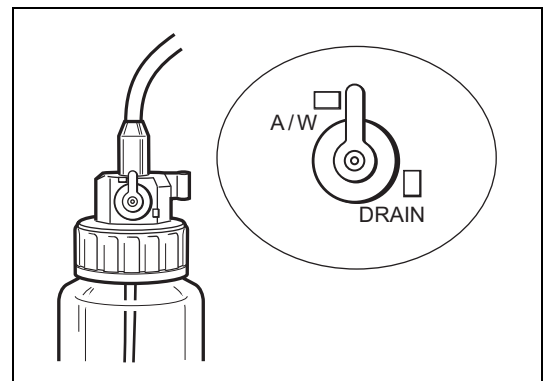

Figure 2.2
- Align the A/W-DRAIN lever to the A/W (air/water supply) position. (Refer to Figure 2.2)